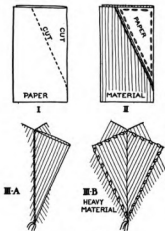

FIGURE 90
**21. Darts (Figure 90).** — Before making the dart, establish the placement of all the darts (pages 222, 223) and pin the two